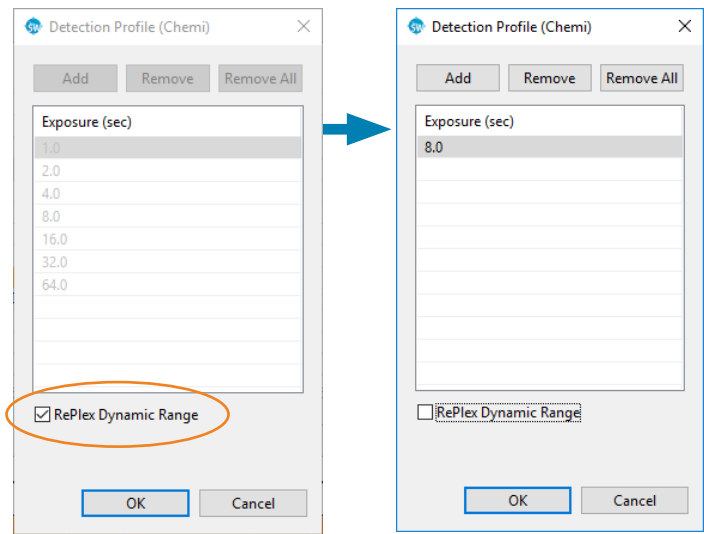

FIGURE 6. Changing to single exposure times in RePlex chemiluminescence assays in Compass for Simple Western.
- Jess and Abby: Use a single chemiluminescence exposure setting in the RePlex assay for Probe 1. Choose the longest chemiluminescence exposure where the signal is stable as seen in the All Exposures view. In the RePlex assay, uncheck the **RePlex Dynamic Range** in the Detection Profile in Compass for Simple Western and manually input the desired exposure time (**Figure 6**).
the Detection Profile in Compass for Simple Western and manually input the desired exposure time (**Figure 6**).